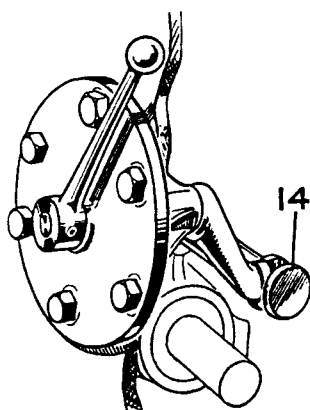

FIG. 2
1. Disengage shaft by forward movement of hand lever mounted on left hand centre housing inspection cover, as shown in Fig. 2.
2. Carefully enter the splined end through the bushing in the hydraulic pump, engaging the splines of the pump cams. Finally enter the shaft coupling sleeve (6).
3. Press home and tighten rear cover on to gasket (5).
4. Operate P.T.O. coupling lever to ensure correct functioning and meshing of coupling teeth, ensuring that shifter fork is correctly located in groove of shifter rail as shown in Fig. 2.